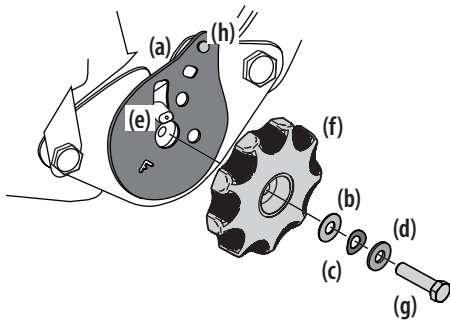

Figure 2-12
7. Remove the seat tilt knob assembly from the bag and install as shown in Figure 2-12.
Note: Be sure to orient the recliner plate (a) and install the plastic washer (b), spring washer (c) and metal washer (d) as shown in Figure 2-12. The plastic washer is on the inside.
8. Slide the recliner bearing plate (a) onto the recliner pin (e). Refer to Figure 2-12.
10. Use a wrench to hand tighten the hex screw (g) until the recliner knob (f) is difficult to turn. Refer to Figure 2-12.